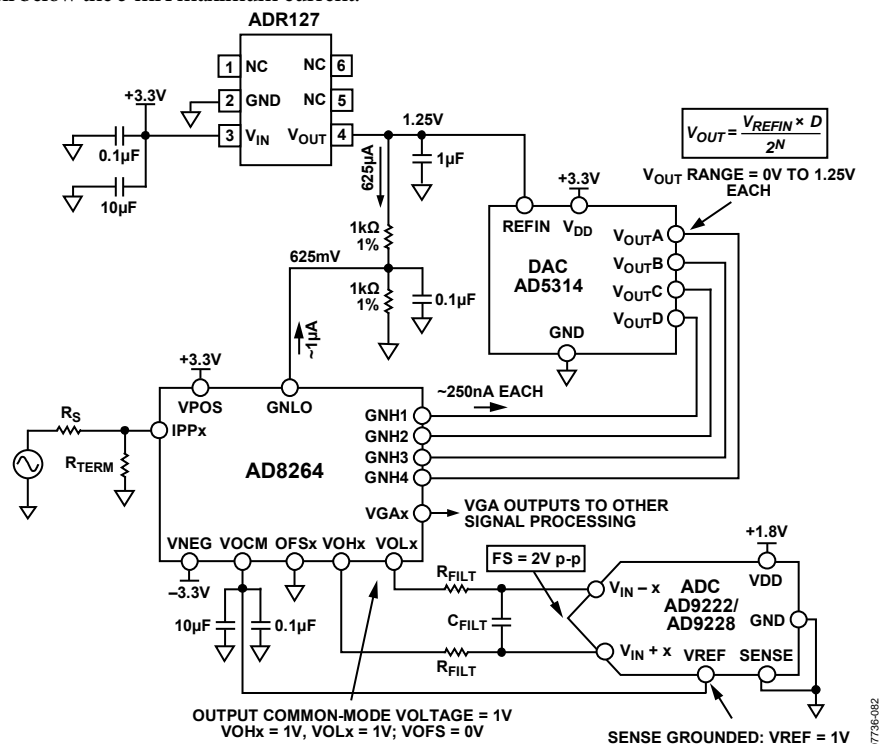
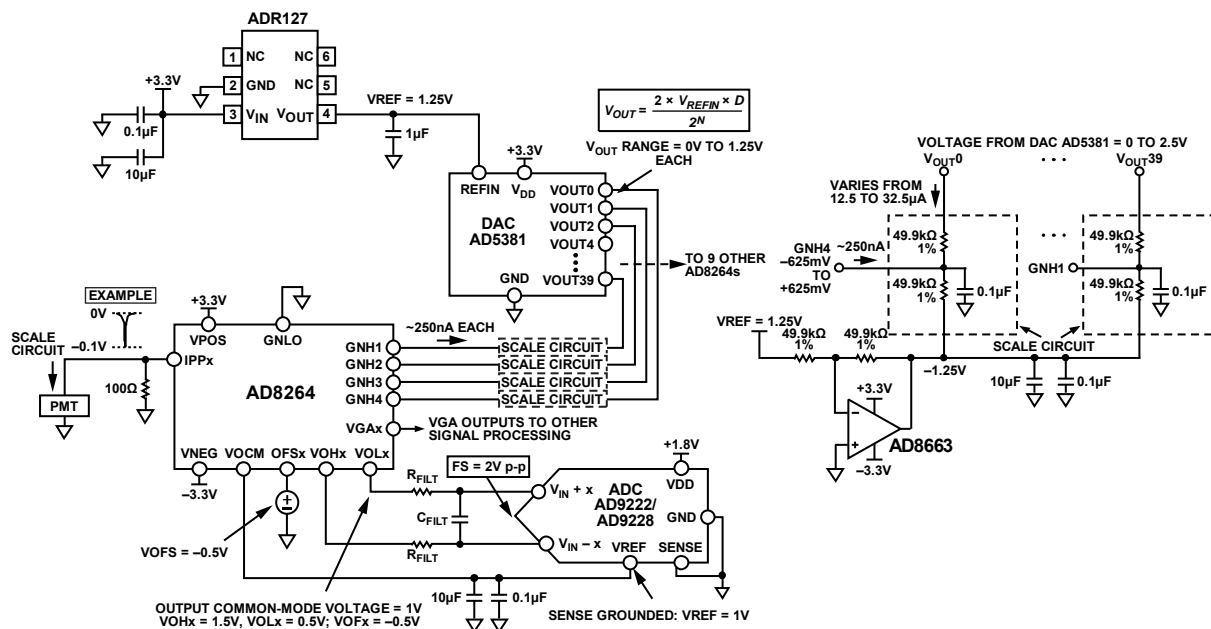

Figure 112. Application Concept of the AD8264 with the AD5314 10-Bit DAC and the AD9222/AD9228 12-Bit ADC
Figure 113. Concept Application of AD8264 with 40-Channel AD5381 12-Bit, 3 V DAC and AD9222/AD9228 12-Bit ADC
The AD8264 is particularly well suited for use in the analog front end of medical PET imaging systems. Figure 112 shows how to use the AD8264 with the AD5314 (a 4-channel, 10-bit DAC) and the AD9222/AD9228 (an octal or quad, 12-bit ADC, respectively). The DAC sets the gain of the AD8264. Note that the full gain span of 24 dB is achieved with this setup because the gain control input range of the AD8264 is very close to 1.25 V. The GNLO pin must offset by  $1.25/2 = 625$  mV because the gain control input is bipolar around the voltage applied at GNLO. This is done with two 1 k $\Omega$ , 1% resistors. The approximately 1  $\mu$ A of bias current flowing from the GNLO pin does not contribute a significant error because the basic gain error of the AD8264 is the limiting factor.
Figure 112 also includes the DAC output equation, which indicates that the output can vary between 0 V and  $V_{REF} = 1.25$  V.
The single-ended-to-differential amplifier of the AD8264 amplifies the VGA output signal by 6 dB and can provide the required dc bias of the AD9222/AD9228, as shown in Figure 112. The ADC is connected with the default internal reference because the SENSE pin is grounded. With this connection, the AD9222/AD9228 VREF pin is an output that provides 1 V; this is then connected to the VOCM input of the AD8264, which sets the output common-mode voltage of the VOHx and VOLx pins to 1 V. This voltage is very close to the recommended optimal value of  $VDD/2 = 0.9$  V. With this configuration, the ADC inputs are set to a full-scale (FS) of 2 V p-p.
The dc connected concept example in Figure 113 is an application with the 40-channel AD5381, 3 V, 12-bit DAC. The main difference between this example and Figure 112 is that, for the same ADR127 1.25 V reference, the full-scale output of the DAC is from 0 V to  $2 \times V_{REFIN} = 2.5$  V. Two options for gain control include the following:
- Use the same circuit as in Figure 112 but use only half the DAC output voltage from 0 V to 1.25 V. This is the simplest solution, requiring the fewest extra components. Note that the overall gain resolution increases by one bit to 11 bits over the 10-bit AD5314.
- Ground GNLO and scale the DAC output so that the GNHx inputs vary from  $-0.652$  V to  $+0.625$  V. Figure 113 shows a possible circuit implementation using a divider between the DAC output and a  $-1.25$  V reference.
Figure 113 shows how the AD8264 is connected in a PET application. The PMT generates a negative-going current pulse that results in a voltage pulse at the preamplifier input and a differential output pulse on VOLx and VOHx.
A convenient method of verifying and customizing the signal chains shown in Figure 112 and Figure 113 is by ordering the corresponding evaluation boards available on [www.analog.com](http://www.analog.com). The AD8264-EVALZ is a platform through which the user can quickly become familiar with the features and performance capabilities of the AD8264. See the Evaluation Board section for more information.